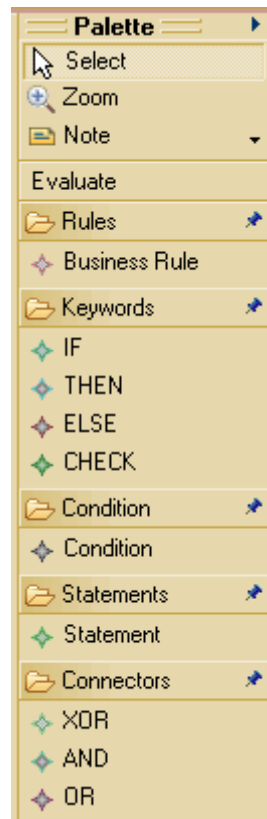

Figure 2. Business rule view palette
**Step 3.** In the business rule diagram editor, add the following objects from the business rule palette (see Figure 2): a business rule container **Process Choice**, a keyword **IF**, a condition **Well temperature rises**, a keyword **THEN**, a term **Start Statoil**, a keyword **ELSE** and a term **Start Saarstahl** inside it.